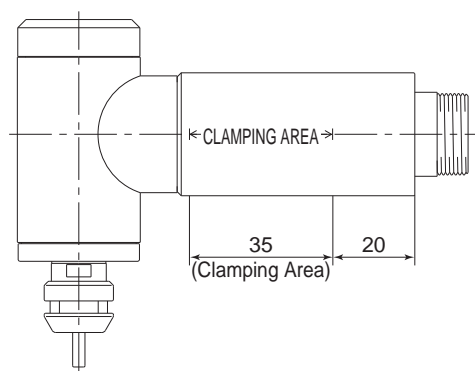

Fig. 8
① When mounting a Spindle, refer to the Clamping Area etched on the Spindle (Fig. 8).